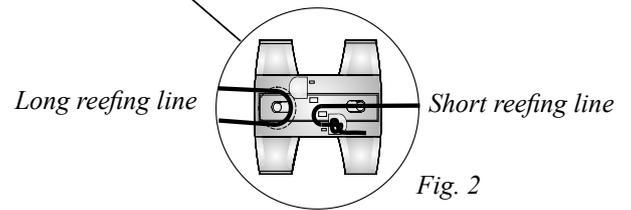

Fig. 2
3. The SLR blocks are symmetric and fit in either side of the boom from the outboard end. Select one SLR block, check that the arrow on the outer face is facing upwards and on the Starboard side, and then feed the new shorter blue flecked line (reef 1) in from the front and through the central hole. Turn the line forwards inside the block and secure with an overhand knot (see fig. 2.) The knot should lay into the D-shaped recess in the block, and it's short tail tucked into the cavity immediately ahead.